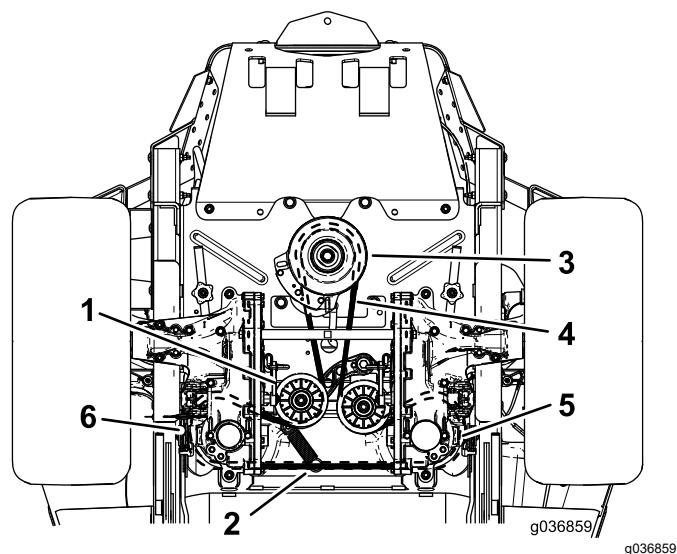

Figure 65
6. Remove the idler spring from the post (Figure 65).
8. Install the new belt around the engine pulley and the 2 hydraulic-pump pulleys (Figure 65).